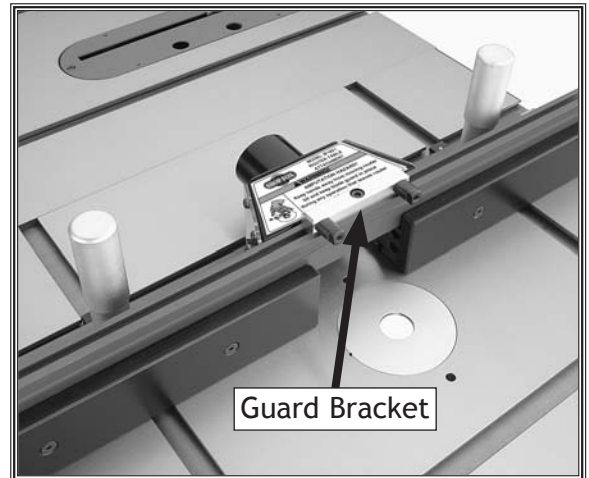

Figure 15. Guard bracket attached to the fence.
12. Slide the attached square nut on the guard bracket into the top fence T-slot, center it with the dust hood and dust port, then tighten the cap screw to secure it in place, as shown in Figure 15.